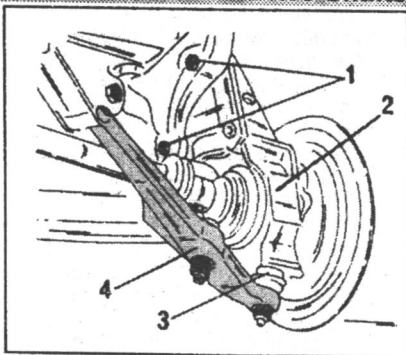

Fig. 4.2. The named parts must be removed when removing the R.H. drive shaft. The numbers are referred to in the text.
- Remove the two bolts securing the suspension ball joints (3) in Fig. 4.2 to the bottom of the steering knuckle and the bolts (1) securing the steering lever. Push the complete steering knuckle (2) towards the outside and push the suspension arm (4) downwards until the ball joint is free of the steering knuckle. Pull the steering knuckle to the outside as far as it will go until the drive shaft is free of the steering knuckle. Push the shaft to one side.